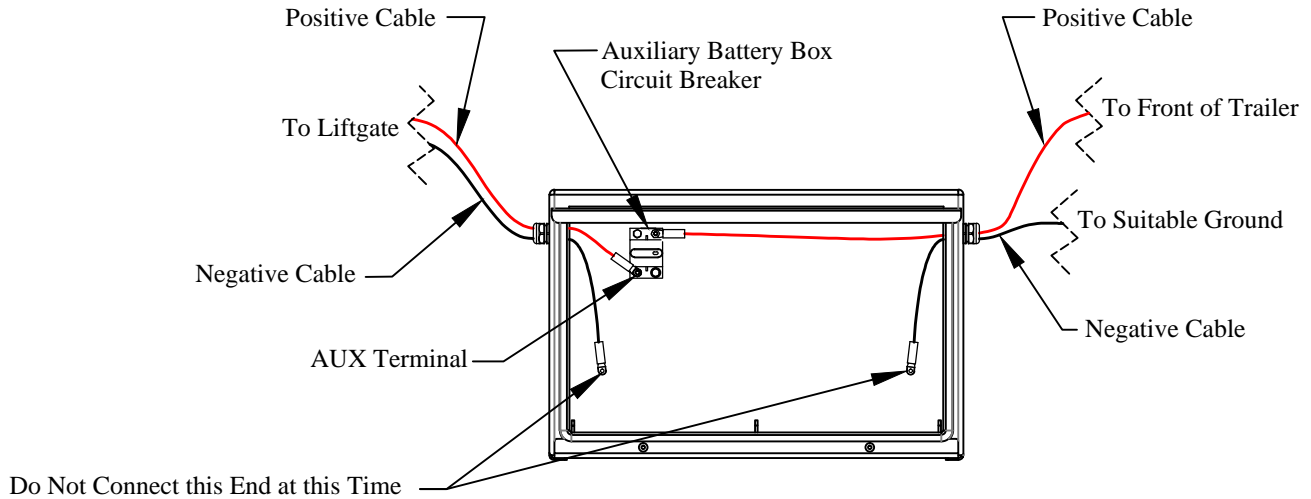

Figure 13: Placement of power cables (trailer applications).
**15. Connect** the positive (+) cable from the liftgate to the AUX. terminal of the auxiliary battery box's circuit breaker (Figure 13).
**16. Route** the 30" negative (-) cable through the cord grip on the front most side of the auxiliary battery box and connect it to a suitable grounding point on the trailer frame (Figure 13).